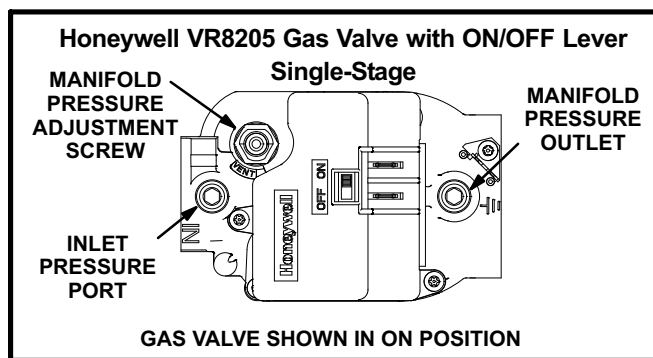

FIGURE 15
The Honeywell valve is adjustable for both low fire and high fire. Figures 15 and 16 show gas valve components. Table 5 shows factory gas valve regulation for TGA series units.
Gas Valve Operation (figures 15 and 16)
- 5- *Honeywell VR8205 Gas Valve with ON/OFF Lever* - Switch gas valve lever to **OFF**. See figure 15.
- 6- *Honeywell VR8205 Gas Valve with ON/OFF Lever* - Switch gas valve lever to **ON**. See figure 15.